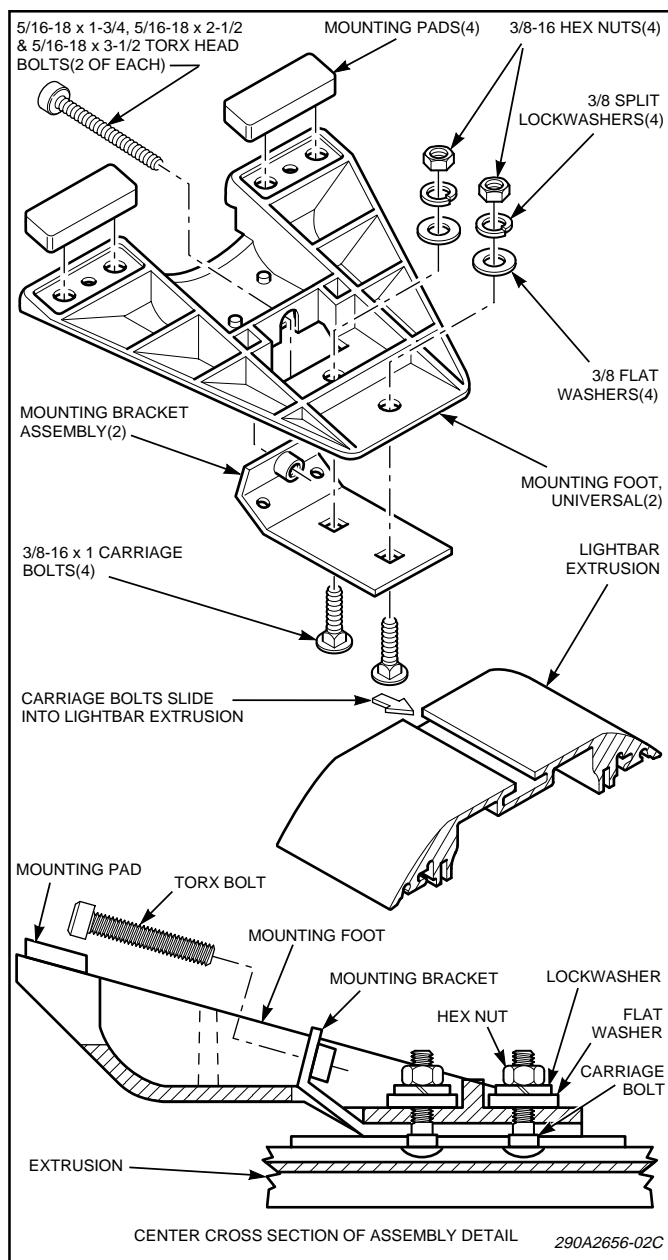

Figure 2.
3. Insert the two (2) rubber mounting pads into each plastic mounting foot as shown in figure 2. To allow easy insertion of the rubber pads, wet the rubber mounting pad's center nipple.
4. Assemble a hook bracket to each mounting foot using the 3/8-16 carriage bolts, 3/8 flat washers, 3/8 lockwashers, and 3/8-16 hex nuts as shown in figure 2.
in figure 2. Repeat on the other side of the light assembly.